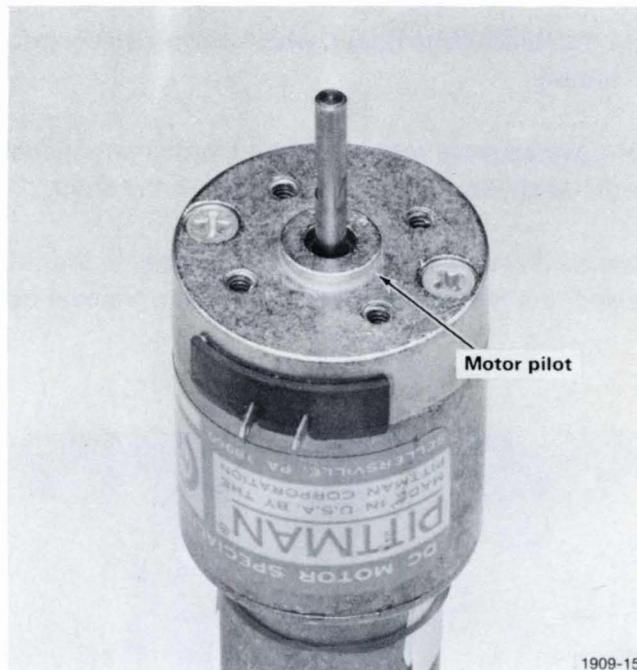

Fig. 3-5. Motor Pilot Location.
7. Install the new motor (with filter assembly attached) from the underside of the 4924 frame, positioning the motor pilot (Fig. 3-5) into the chassis motor opening. Rotate the motor until the screw holes are aligned, then install and tighten the four securing screws.